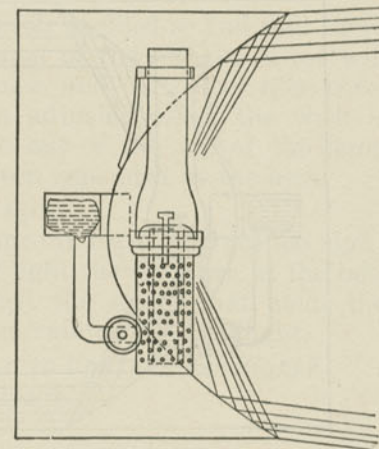

Fig. 313.
A. Because if the light is at the focus all the rays will be reflected out parallel to the axis, as in Fig. 313.